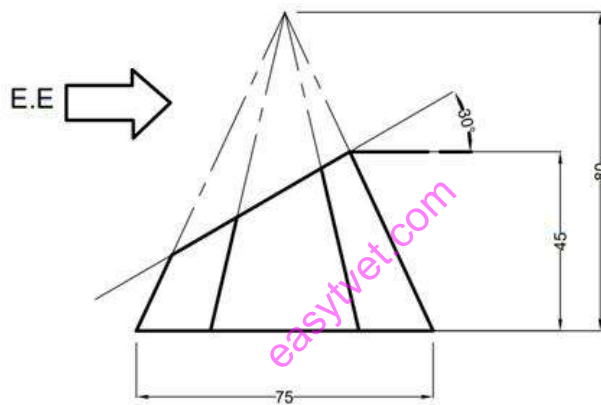

Figure 2
11. **Figure 2** shows an elevation of a truncated hexagonal pyramid. Draw the following views in first angle projection. (20 marks)